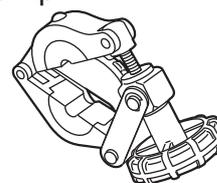

Fig. 38
1) Clamp for flaring (Fig. 38)